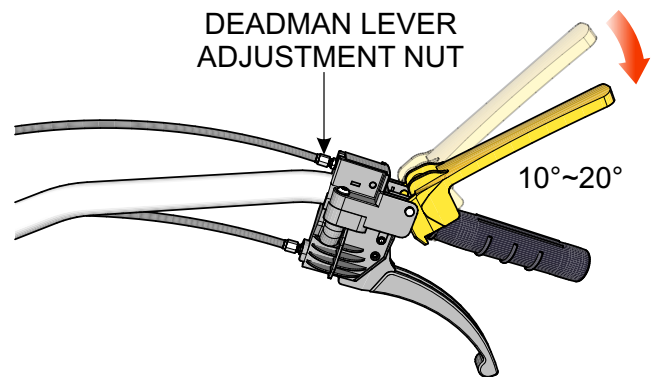

Figure 44. Deadman Lever Adjustment Nut
4. If the safety pin has not been released from the pump direction bracket slot, adjust the nut (Figure 44) on the deadman lever until the safety pin clears the pump direction bracket slot.